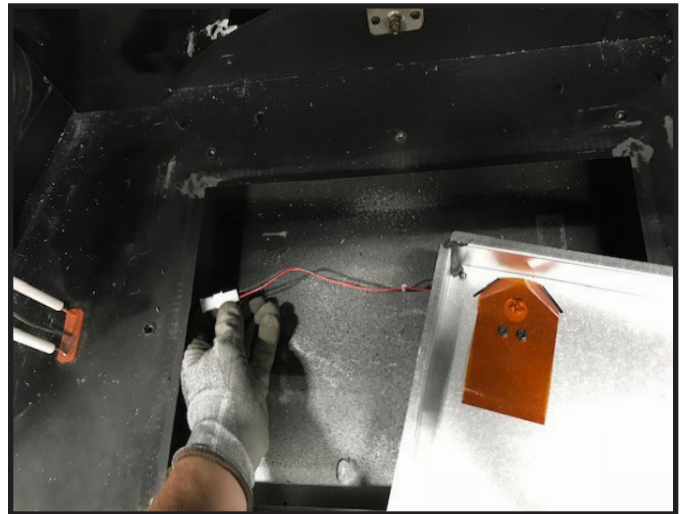

Figure 13 Connection to unplug before removing the LED Tub Assembly from the firebox
13. Lift the LED Tub Assembly up from the bottom inside of the firebox but do not pull it all the way out of the appliance as there is a plug connection you will need to disconnect. See Figure 13